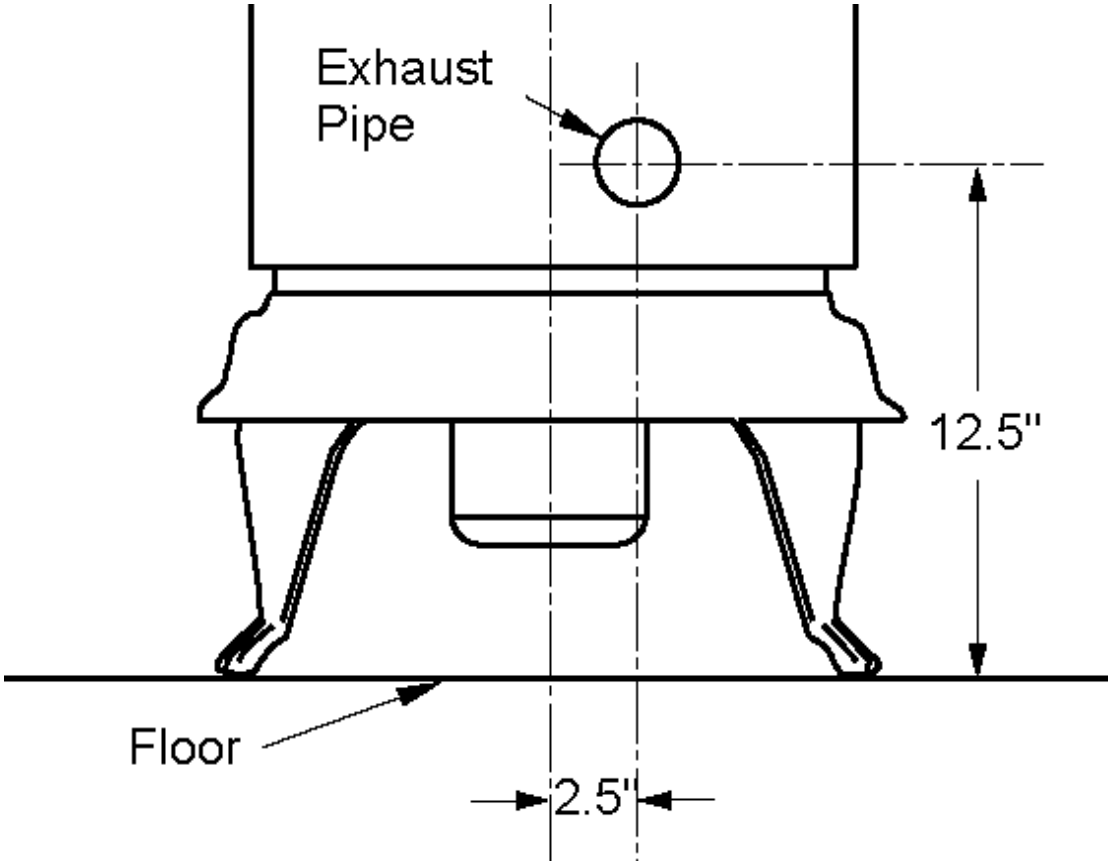

FIGURE 8
7. Installation per FIGURE 8 requires 4" Type L pipe with a minimum 5 foot vertical rise with a square horizontal cap.